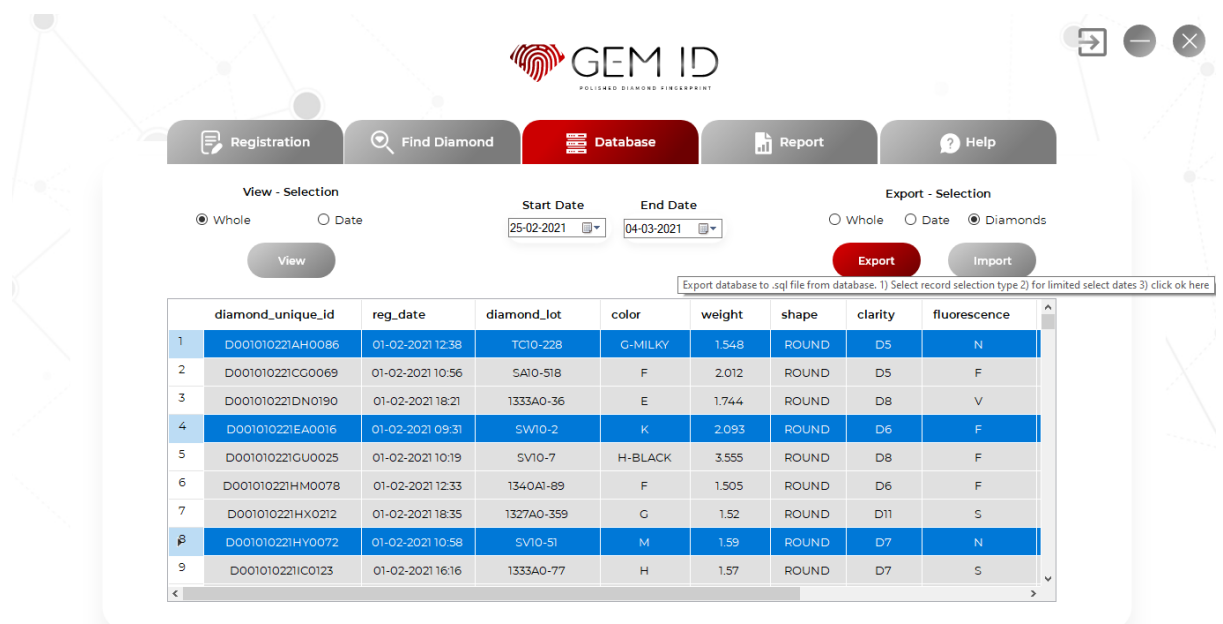

Fig4.4
3. Diamonds: only the selected diamonds as shown in fig4.4